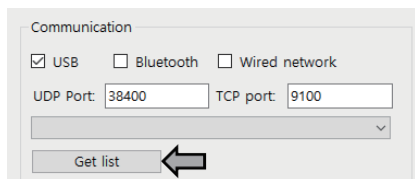

Fig.2
② After launching the setup tool, click “Get list” to detect the printer’s USB connection (see Figures 2 and 3).